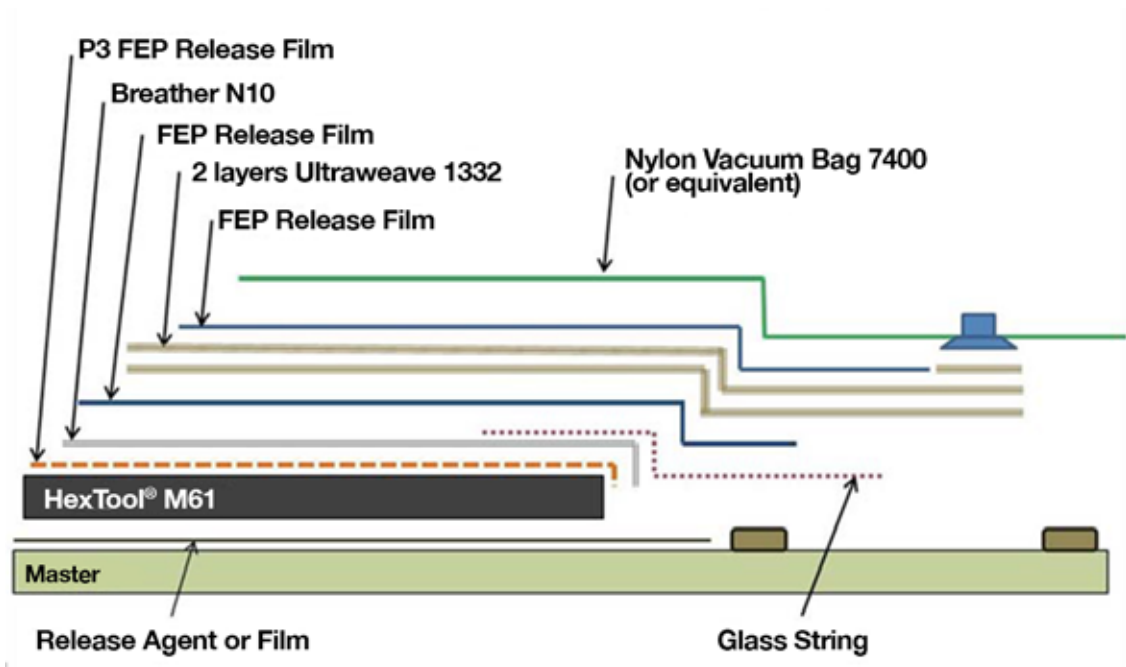

Figure 17
- A typical bagging assembly is outlined in Figure 17.